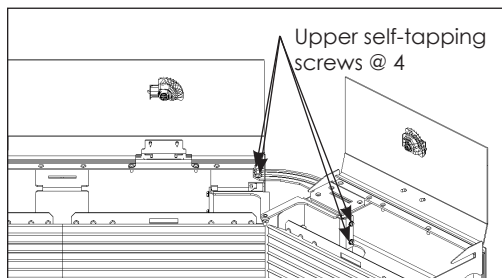
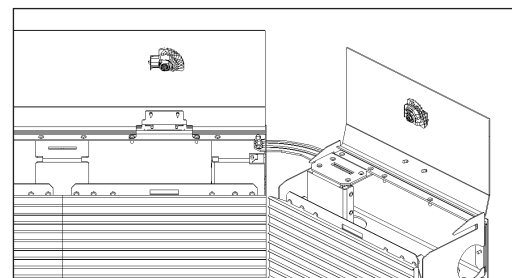

Figure 28: Remove Top Hinge
Figure 29: Top Hinge Removed
5. Remove the self-tapping screws securing the top hinge into place and remove the top hinge. This needs to be removed to allow the beverage shrouds to close completely and the module pans to slide out. Refer to **Figure 28** and **Figure 29**.